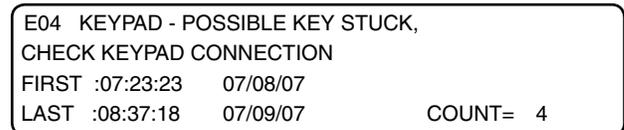

Figure 35-4 Selected Error Log
5. Locate the desired error log screen to reset. See figure 35-4.